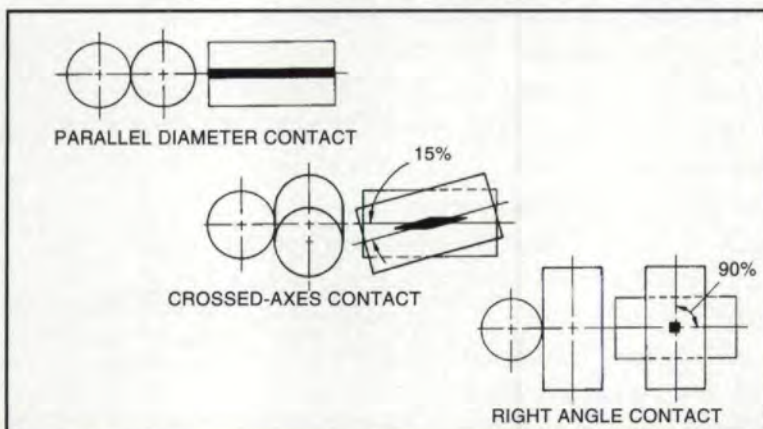

Fig. 5 - Contact between cylinders changes as crossed axes are varied.
*The Crossed Axis Principle* - To visualize the crossed axis principle, consider two parallel cylinders of the same length and diameter (Fig. 5). When brought together under pressure, their common contact surface is a rectangle having a length of a cylinder and width that varies with contact pressure and cylinder diameter.